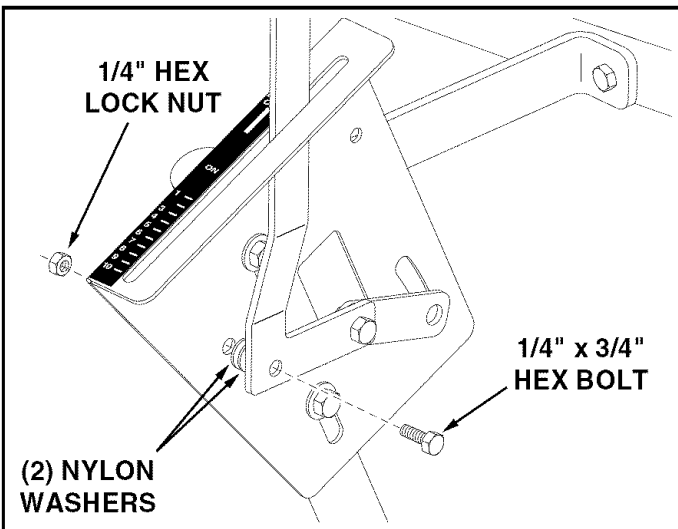

FIGURE 8
- Assemble the flow control arm to the flow control mounting bracket using a 1/4" x 3/4" hex bolt, two nylon washers and a 1/4" hex lock nut. **Tighten carefully.** The flow control arm should be snug but should pivot with no more than slight resistance. See figure 8.